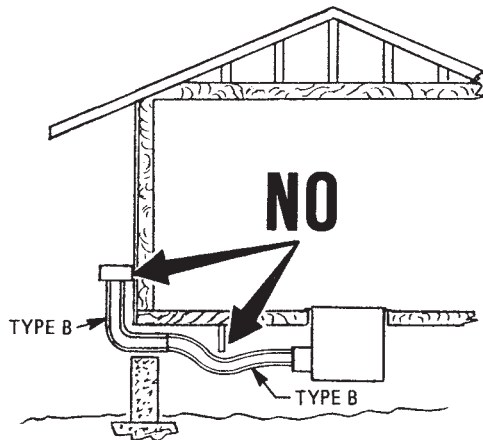

Figure 2
2. Flue pipe **MUST NOT** have any downward sloping sections, dips or sags. **See Figures 2 and 3.**